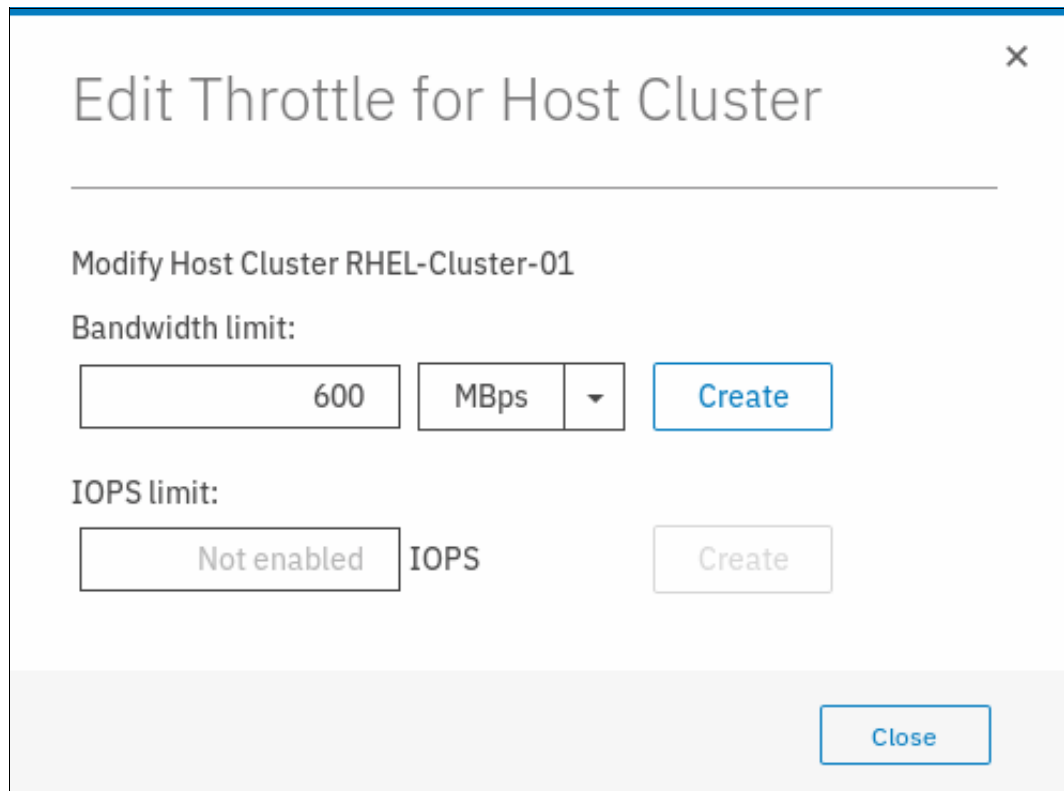

Figure 5-111 Setting bandwidth throttle
3. Enter the wanted type of I/O throttle (IOPS or Bandwidth). In our example, we set up Bandwidth throttle by entering the **Bandwidth limit**, as shown in Figure 5-111.